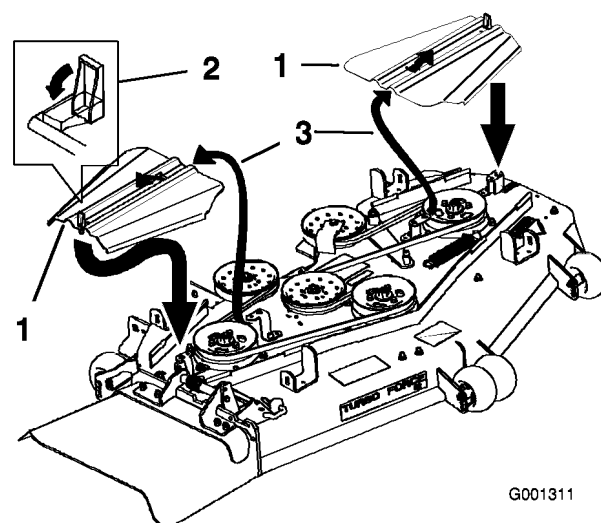
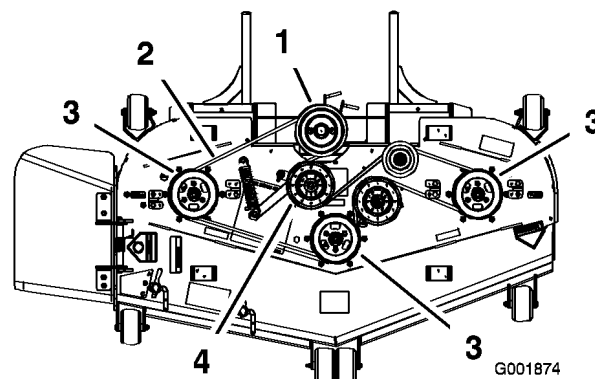
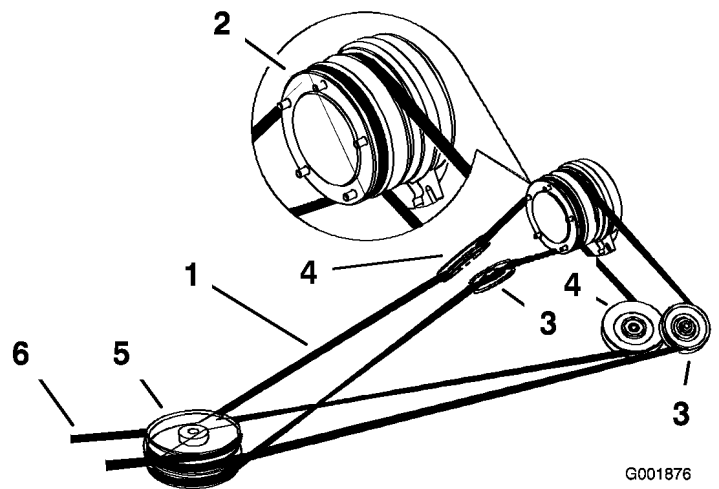

Figure 59
Figure 60
Figure 62
5. Remove the mower belt from the mower pulleys and the top pulley of the three stacked pulleys (Figure 59 and Figure 60).
6. Install the new belt around the mower pulleys and the top pulley of the three stacked pulleys (Figure 59 and Figure 60).
7. Pull on the spring loaded idler arm to loosen the belt tension and align the mower belt onto the idler pulley (Figure 60).
8. Install the belt covers and close the latches (Figure 59).
3. Remove the belt covers (Figure 59).
4. Pull on the spring loaded idler pulley to loosen the belt tension (Figure 62).
5. Remove the mower belt from the top pulley of the three stacked pulleys (Figure 60 and Figure 62).
7. Install the new drive belt around the clutch pulley, the adjustable idler pulleys, the spring loaded idler pulley, and the front three stacked pulleys (Figure 62).
9. Install the mower belt around the mower pulleys and the top pulley of the three stacked pulleys (Figure 60 and Figure 62).